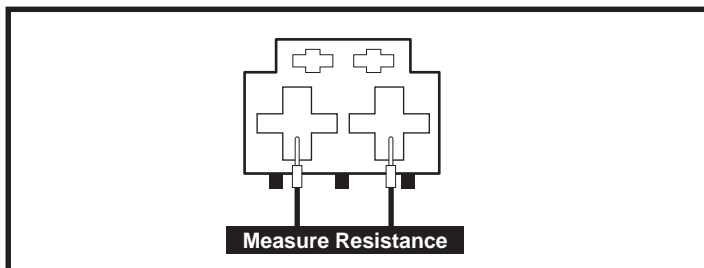

Figure 32. Connector 9a
2. Measure resistance from pin 1 to pin 2 on connector 9a. **See figure 32.**
- If your multimeter indicates about 0.5 – 1.5 ohms, then replace the power module (2) and retest the system.